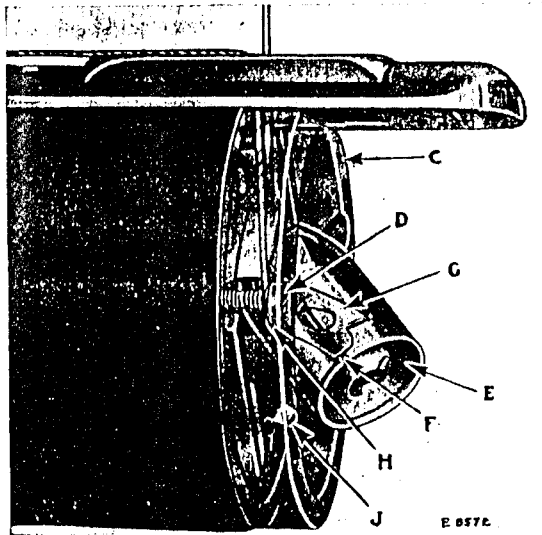
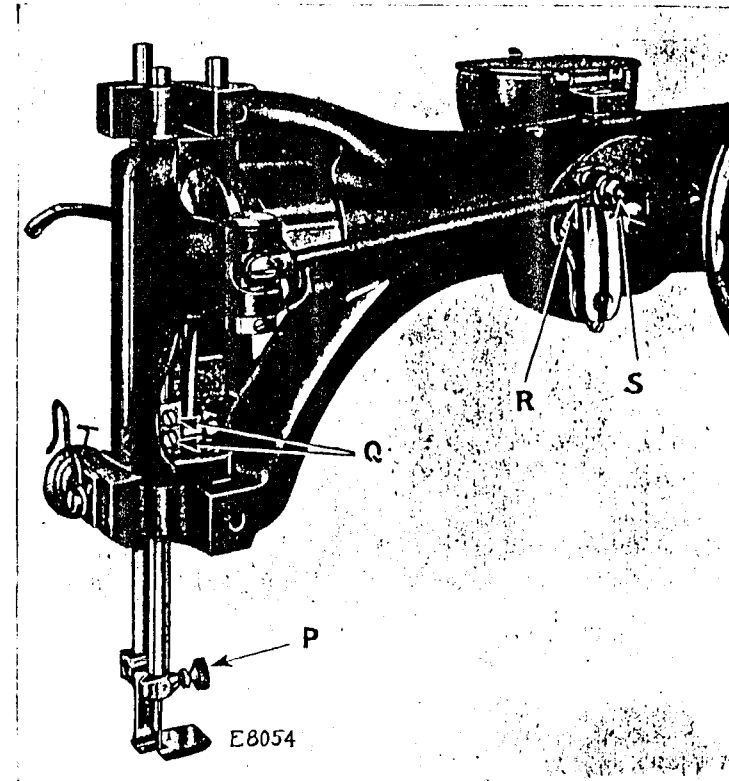
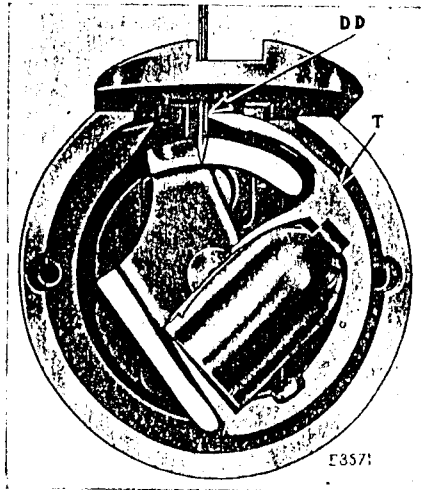

FIG. 5. SHUTTLE THREADED
FIG. 10. ADJUSTMENTS ON THE MACHINE
FIG. 11. SHOWING THE NEEDLE BAR SET AT THE CORRECT HEIGHT
Turn the balance wheel over toward you until the needle bar reaches its lowest point. Press the latch (J, Fig. 5) and at the same time swing out the open end of the cylinder shuttle (L, Fig. 5), then remove the bobbin.
Fig. 5) and under the spring (G, Fig. 5), then into the delivery eye (H, Fig. 5) as shown in Fig. 5. Press the cylinder shuttle in position and allow about three inches of thread to hang free with which to commence sewing.
Turn the balance wheel or the hand wheel until the needle bar is at its highest point, loosen the thumb screw (P, Fig. 10) and put the needle up into the needle bar as far as it will go with the long groove of the needle toward the left and the eye of the needle directly in line with the bed of the machine, then tighten the thumb screw (P, Fig. 10).
The width of zig-zag stitches is regulated by moving the end of the pitman rod (R, Fig. 10) which is fastened in position by a
nut shown at S, Fig. 10 in the slide on the front of the arm of the machine. To decrease the width of the stitch, move this pitman rod downwardly. To increase the width of the stitch, move this pitman rod upwardly. When the desired width of stitch is obtained, tighten the nut (S).
Turn the balance wheel or the hand wheel over until the point of the shuttle is at the centre of the needle as shown in Fig. 11.
When the shuttle is in this position, the eye of the needle should be just below the point of the shuttle as shown at DD in Fig. 11. If the needle bar is not at the correct height, loosen the two needle bar connecting stud set screws (Q, Fig. 10) and raise or lower the needle bar to the required height, as instructed above. Then securely tighten the set screws (Q).
Remove the screw (D, Fig. 5) and the corresponding screw in the opposite side of the shuttle race and withdraw the shuttle race (C, Fig. 5). Then remove the shuttle (T, Fig. 11).